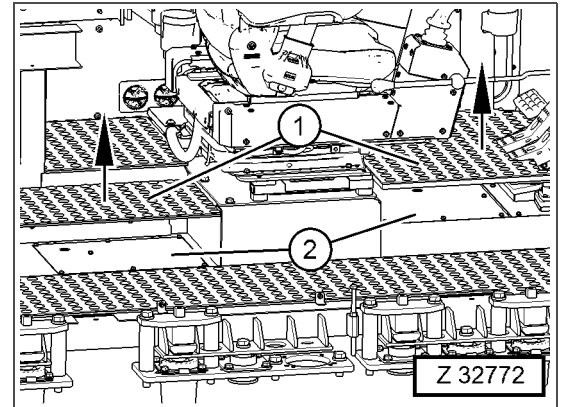

Fig. 3-306
12. Disassemble the plates (Fig. 3-306, Pos. 1).
13. Disassemble the covers (Fig. 3-306, Pos. 2).